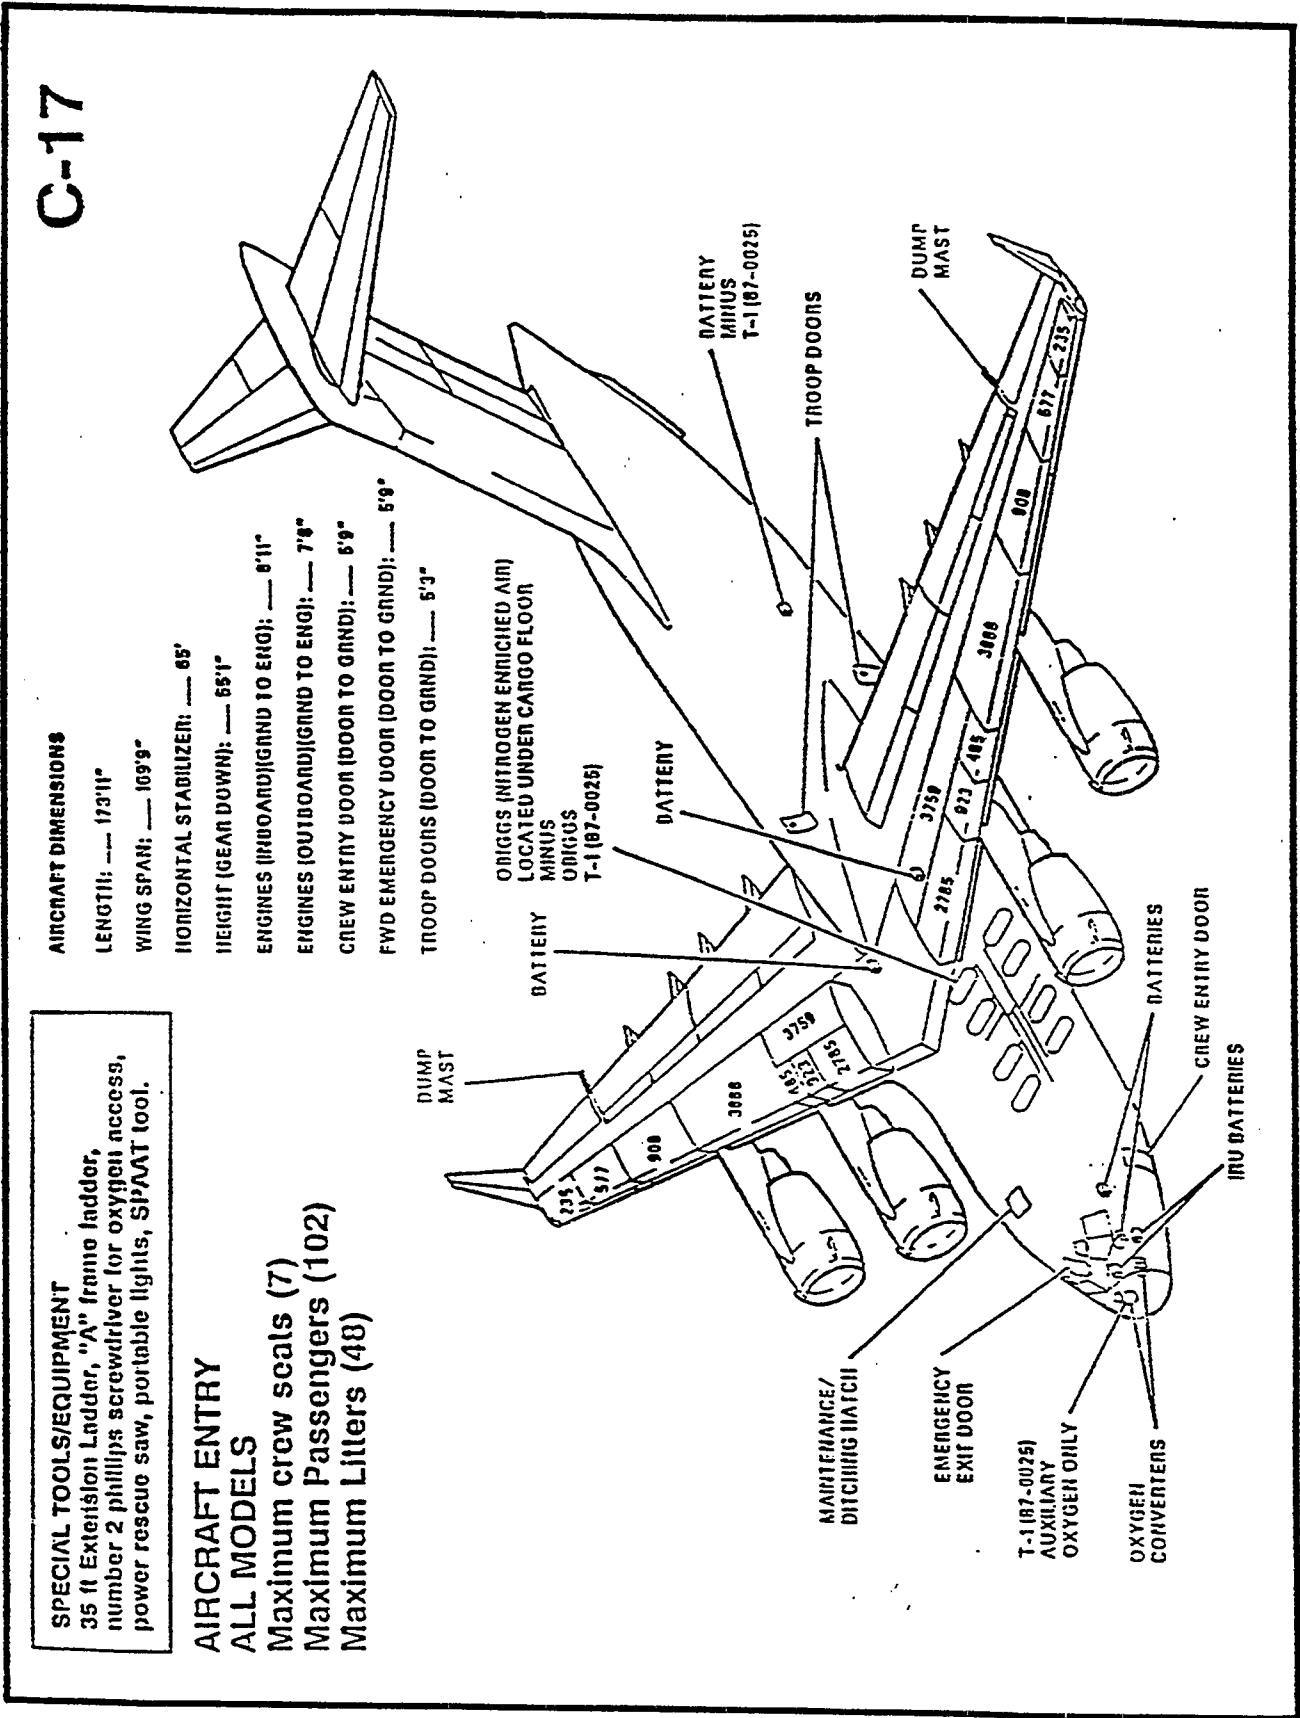

FIGURE 1. Example of list of special tools, number of personnel, entries, hatches, OBIGGS, and aircraft dimensions.
10.3.2 Illustrations. (See Figures 1 thru 8) Illustrations needed in conjunction with this data are extracted from existing Technical Manuals (TM) or engineering drawings that are developed for the aircraft or system being acquired. Illustrations are created only when existing illustrations found in the relevant TMs and engineering drawings can not satisfy the requirements of this DID. The following apply to illustrations:
- e. A list of special tools and equipment required is boxed in the upper left corner of the first page for each type and model of aircraft (see Figure 1 and 2).
- f. Aircraft entry and model designation (F-15, C-5, B-2) is as shown in Figures 1 and 2.
10.3.6 Aircraft dimensions. Illustrations and information for aircraft dimensions with landing gear in down position, i.e. height, width, and length. This information includes interior cubic footage to determine fire retardant agent usage and amount (see Figures 1 and 5).